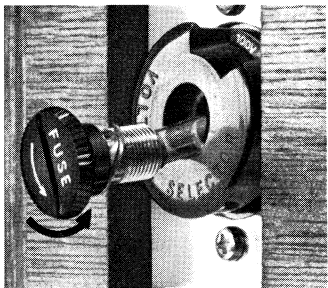

Fig. 4
- (1) Remove the FUSE POST ②⑥ as shown in Fig. 4. Remove the PLUG of VOLTAGE SELECTOR ③⑦ and reinsert so that the desired voltage appears.